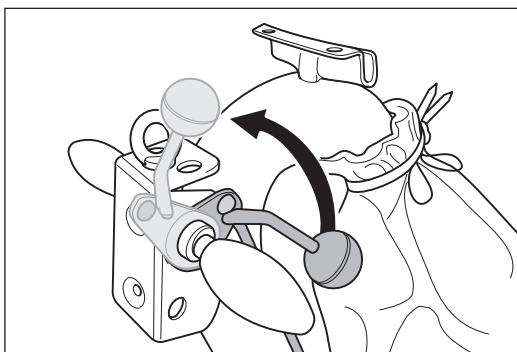

Fig. 19 Lift the sanding drum off the floor by turning the lowering lever at the handle upwards.
- **Always** lift the sanding drum off the floor before switch on the machine (Fig. 19)!
- 1 Lift the sanding drum off the floor by turning the lowering lever at the handle upwards (Fig. 19).
- Lift the sanding drum off the floor by turning the lowering lever at the handle upwards (Fig. 19)!**